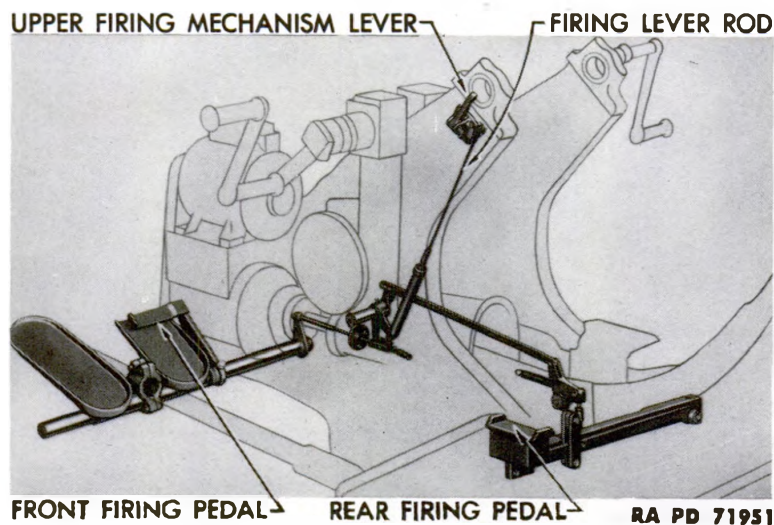

Figure 52 – Firing Mechanism on Carriage – Phantom View
a. The azimuth oil gear and the elevation oil gear supply controlled driving power for traversing and elevating the gun. They are units of the on-carriage equipment of the Remote Control System M5, designed for use with the 40-mm Gun Carriages M2 and M2A1 (AA). They are identical except for a conversion which can be made by the using arm personnel. They are fully described in section X, which also gives instructions for operation, maintenance, tests, adjustments, and instructions for conversion.
a. The firing mechanism on the top carriage (fig. 52) actuates the firing mechanism in the gun. This mechanism can be operated by applying pressure to either the front or rear firing pedals.